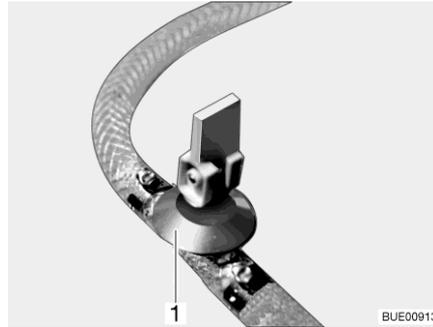

Fig. 171 Drain cock (with rocking lever)
- Open all drain cocks. In order to do this, position the rocking lever of the drain cock (Fig. 171,1) vertically.